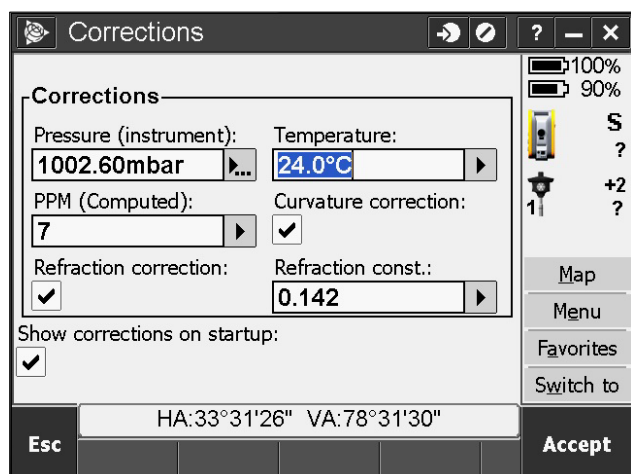

Figure 10. Station setup corrections screen.
- d. Check instrument level and corrections (Figure 10) => Accept